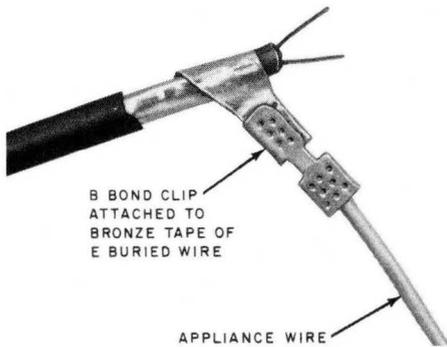

Fig. 27—▶Bonded Shield of E Buried Wire◀
7.05 Where the buried wire is over 700 feet in length, the metallic shield of the E buried wire must be bonded to the cable terminal. A bond clip and B appliance wire may be installed on the metallic shield in a solderless connector as shown in Fig. 27.